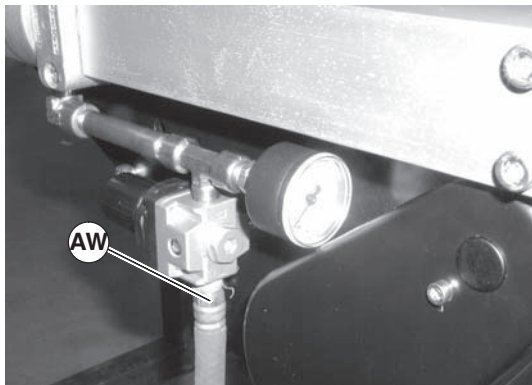

Figure 80
1. Remove air supply and remove hose (Figure 80, item AW) from center drive.